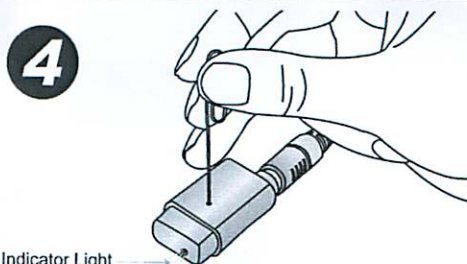

Figure 4
4. When using for the first time or synching with another device, it must first be programmed. Insert a small pin into the pin insert. With the pin inserted, press the programming button and the indicator light will flash repeatedly (Figure 4). After 60 seconds, the programming instructions will be synced to both devices and the program mode will end. Once complete, the indicator light will stop flashing and stay on.